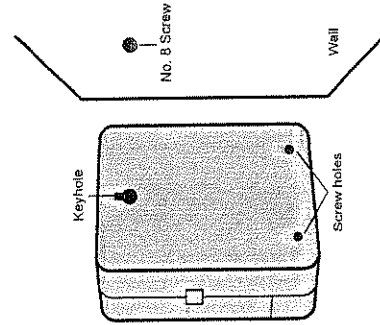

FIGURE 19: Mounting the Controller
- Screw a No. 8 screw through each of the two holes at the bottom of the box into the wall [See Figure 19].